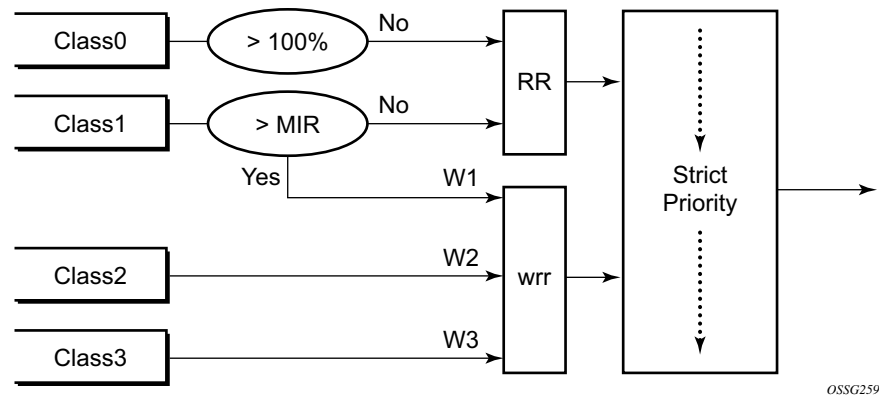

Figure 7: MLPPP Class Queue Scheduling Scheme
Table 12 and Figure 7 provide the details of the class queue scheduling parameters.
7. The MLPPP class queue scheduling parameters is configured in the egress QoS profile. The minimum information rate, referred to as **MIR** in Figure 7 and **mir** in CLI, applies to Class 1 queue only. The MIR parameter value is entered as a percentage of the available bundle rate. The WRR weight, referred to as W1, W2, and W3 in Figure 7 and weight in CLI, applies to class 1, class 2, and class 3 queues. Note that W1 in Figure 7 is not configurable and is internally set to a value of 1 such that Class 1 queue shares 1% of the available bundle rate when the sum of W1, W2, and W3 equals 100. W2 and W3 weights are integer values and are user configurable such that Class 2 queue shares $(W2/(W1 +$